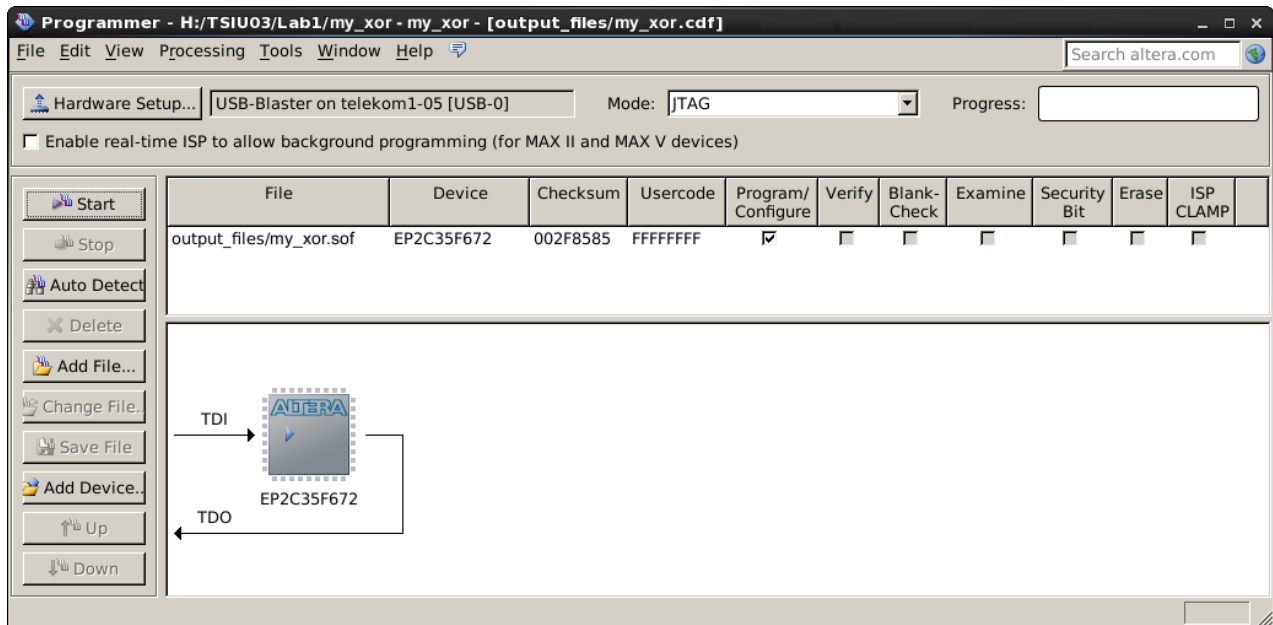

Figure 4: The programmer, after setup of everything.
- ⇒ *The Programmer is shown in Fig. 4.*